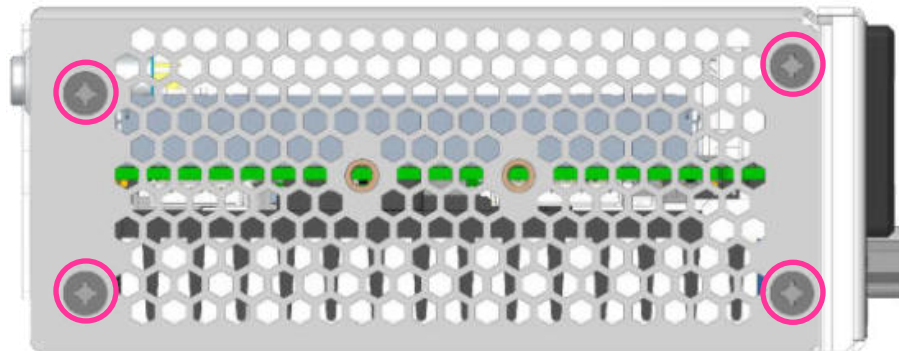
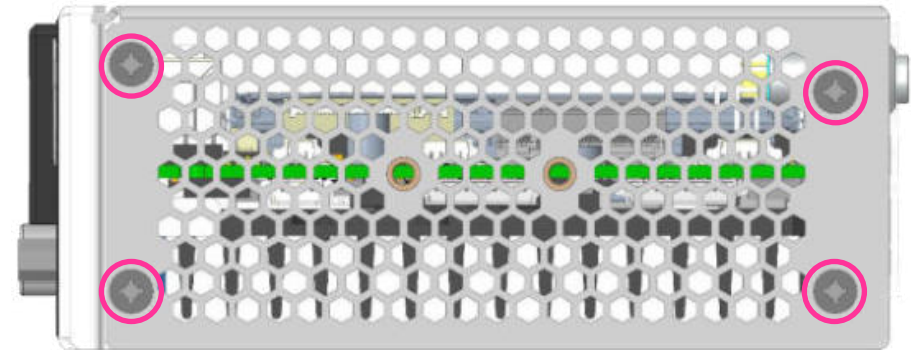

Fig. 20: Screws on the left side
Fig. 21: Screws on the right side
2. Remove the 8 screws (M3X4) (4 screws each side, see Fig. 20 / Fig. 21).